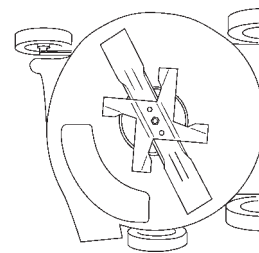

Figure 15
3. Tip the lawn mower onto its right side (Fig. 15).
2. Tip the lawn mower onto its right side (Fig. 15).